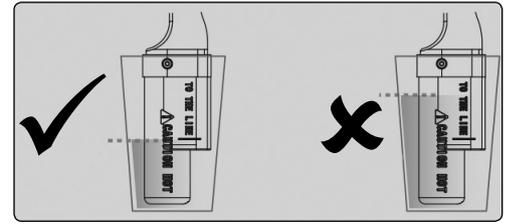

Fig.2
- 4.4. **DO NOT** immerse the heater over the 'To The Line' level, see fig.2.
- 4.7.4.3. Put the heater into the test container. **DO NOT** immerse the heater over the 'To The Line' level, see fig.2.